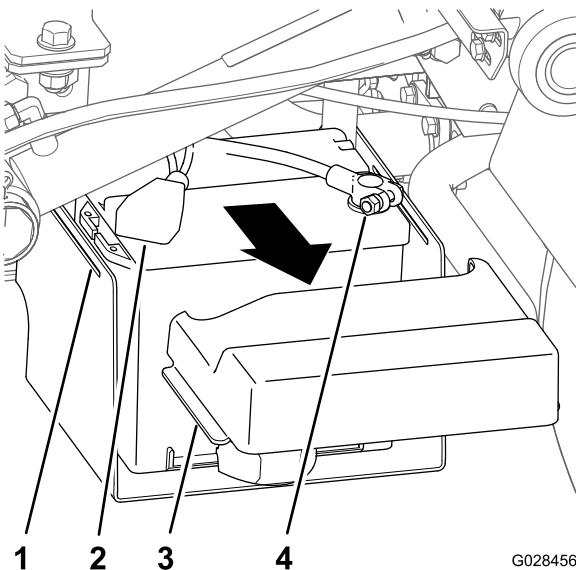

Figure 15
1. Squeeze the sides of the battery cover to release the tabs from the slots in the battery base, and remove the battery cover from the battery base (Figure 15).
2. Slide the cover back and remove the negative battery terminal from the battery (Figure 15).
3. Remove the positive battery terminal from the battery (Figure 15).